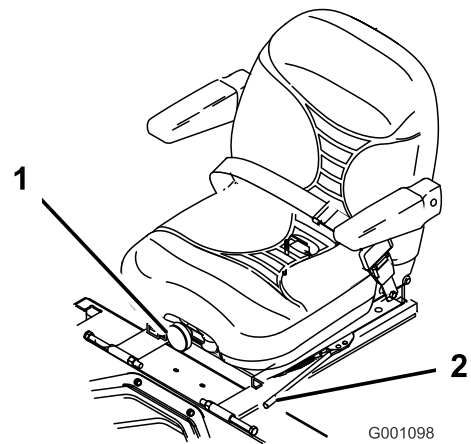

Figure 21
1. To adjust, move the lever sideways to unlock seat (Figure 21).
To adjust, turn the knob in front either direction to provide the best comfort (Figure 21).